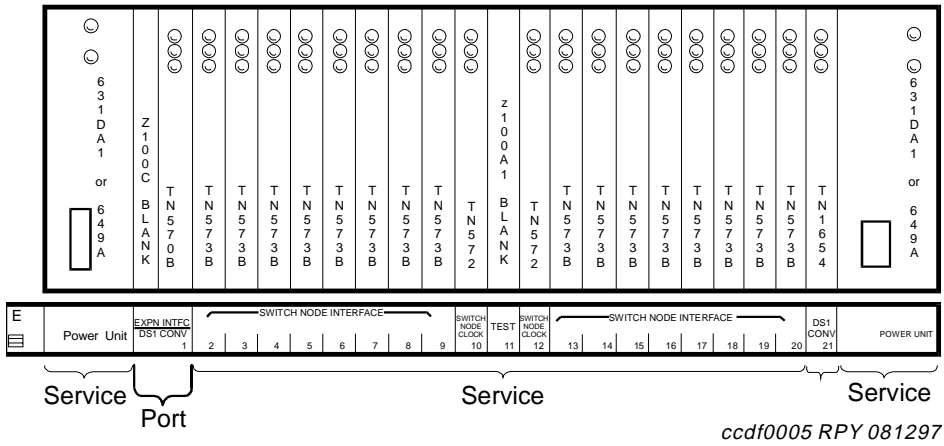

Figure 39. Switch Node Carrier (J58890SA) (Front)
The Switch Node Carrier (SN) (J58890SA) is used in R8r and later only. See Figure 39 for a representative example. The SN can contain one or two switch node clocks, up to 16 Switch Node Interface (SNI) circuit packs, 1 or 2 DS1 converter circuit packs, one EI circuit pack, and 2 AC or DC power units.